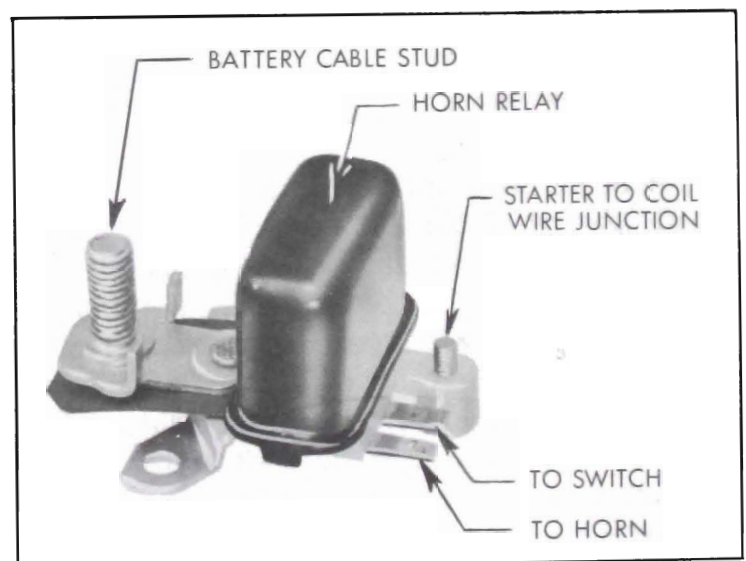

Figure 10-70—Horn Relay and Junction Block Assembly
2. If horns still do not blow, unplug double connector from horn relay part of junction block assembly, which is mounted on left fender skirt. See figure 10-70. Then plug a known good relay and junction block assembly onto the connector and press base of new assembly against old junction block stud for a source of current. Have helper try blowing horns.